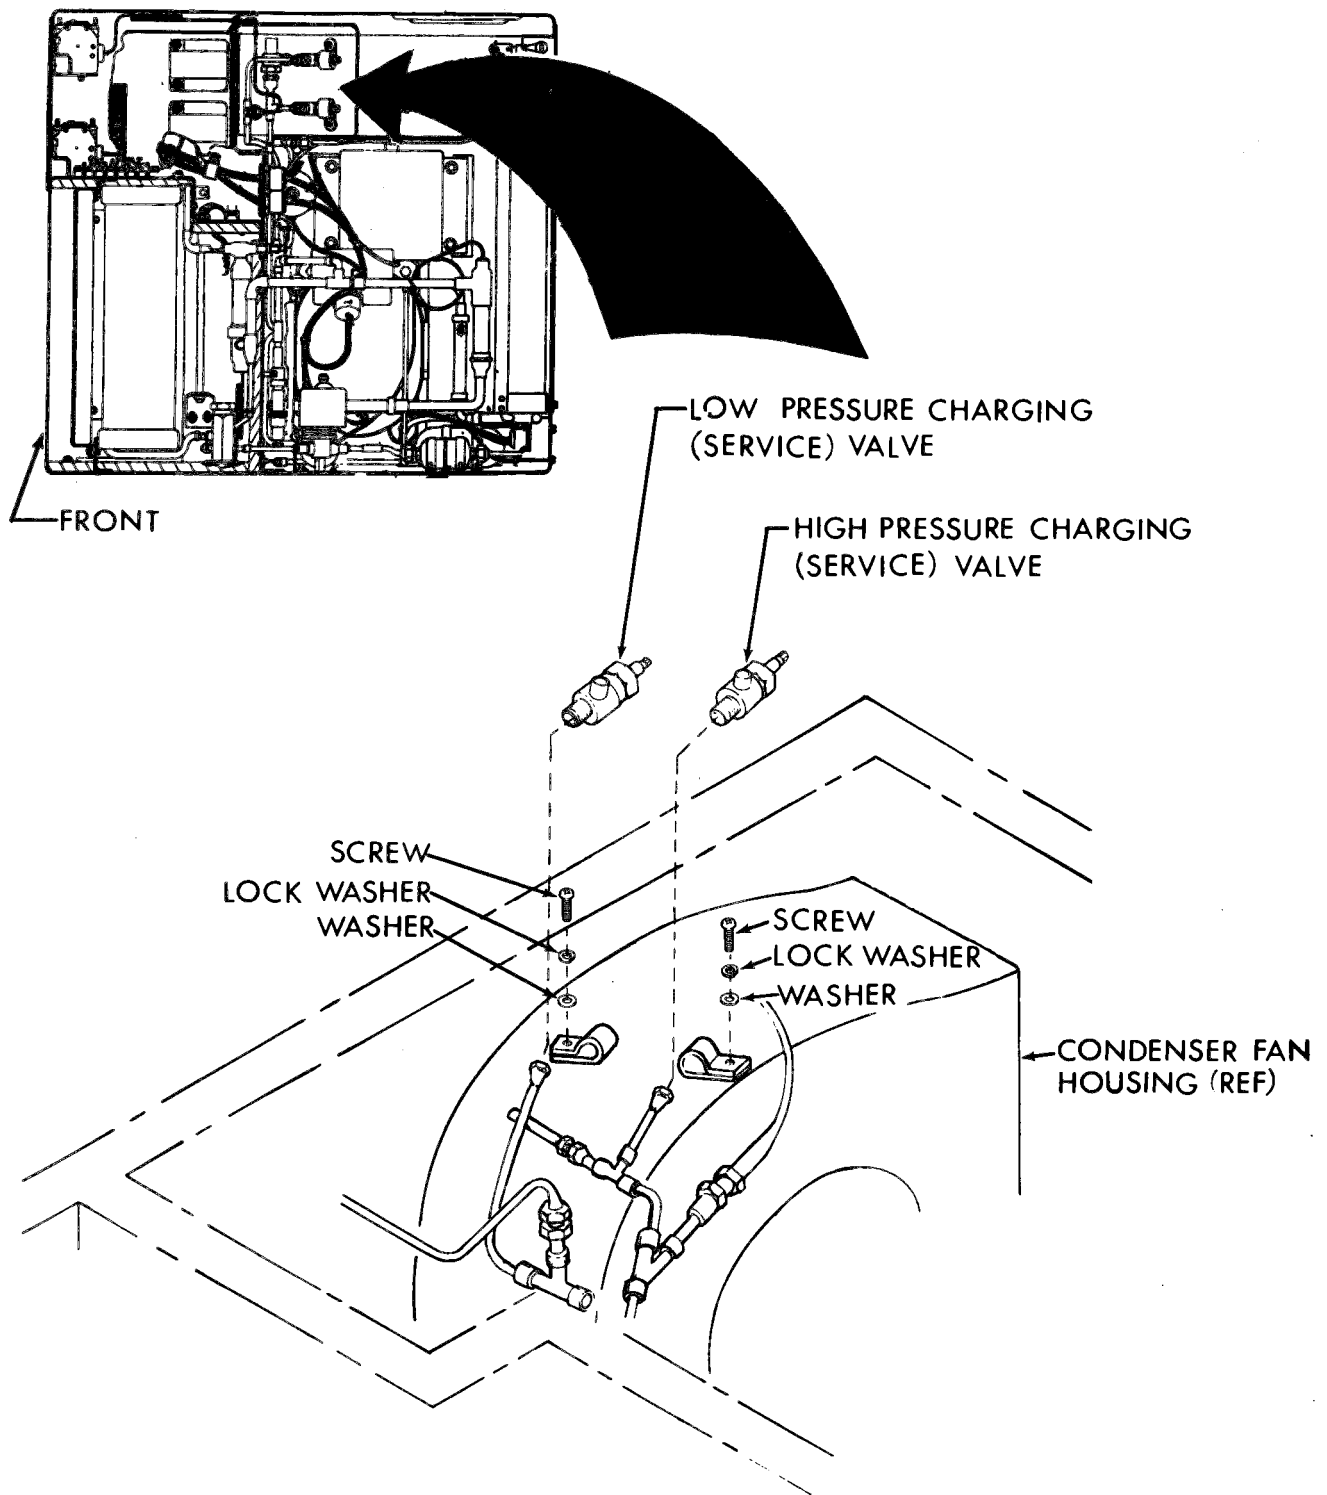

Figure 5-16. Service (Charging) Valves
a. Removal. (See fig. 5-16.)
(1) Disconnect power at power source.
(2) Remove top rear cover (para 4-11).